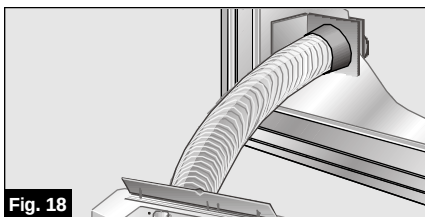

Fig. 18
- If permanent installation is to be performed through the window, then it is only necessary to use the transparent end piece on the accessory. A 10.5-cm diameter hole needs to be cut in the glass, **Fig. 18**.